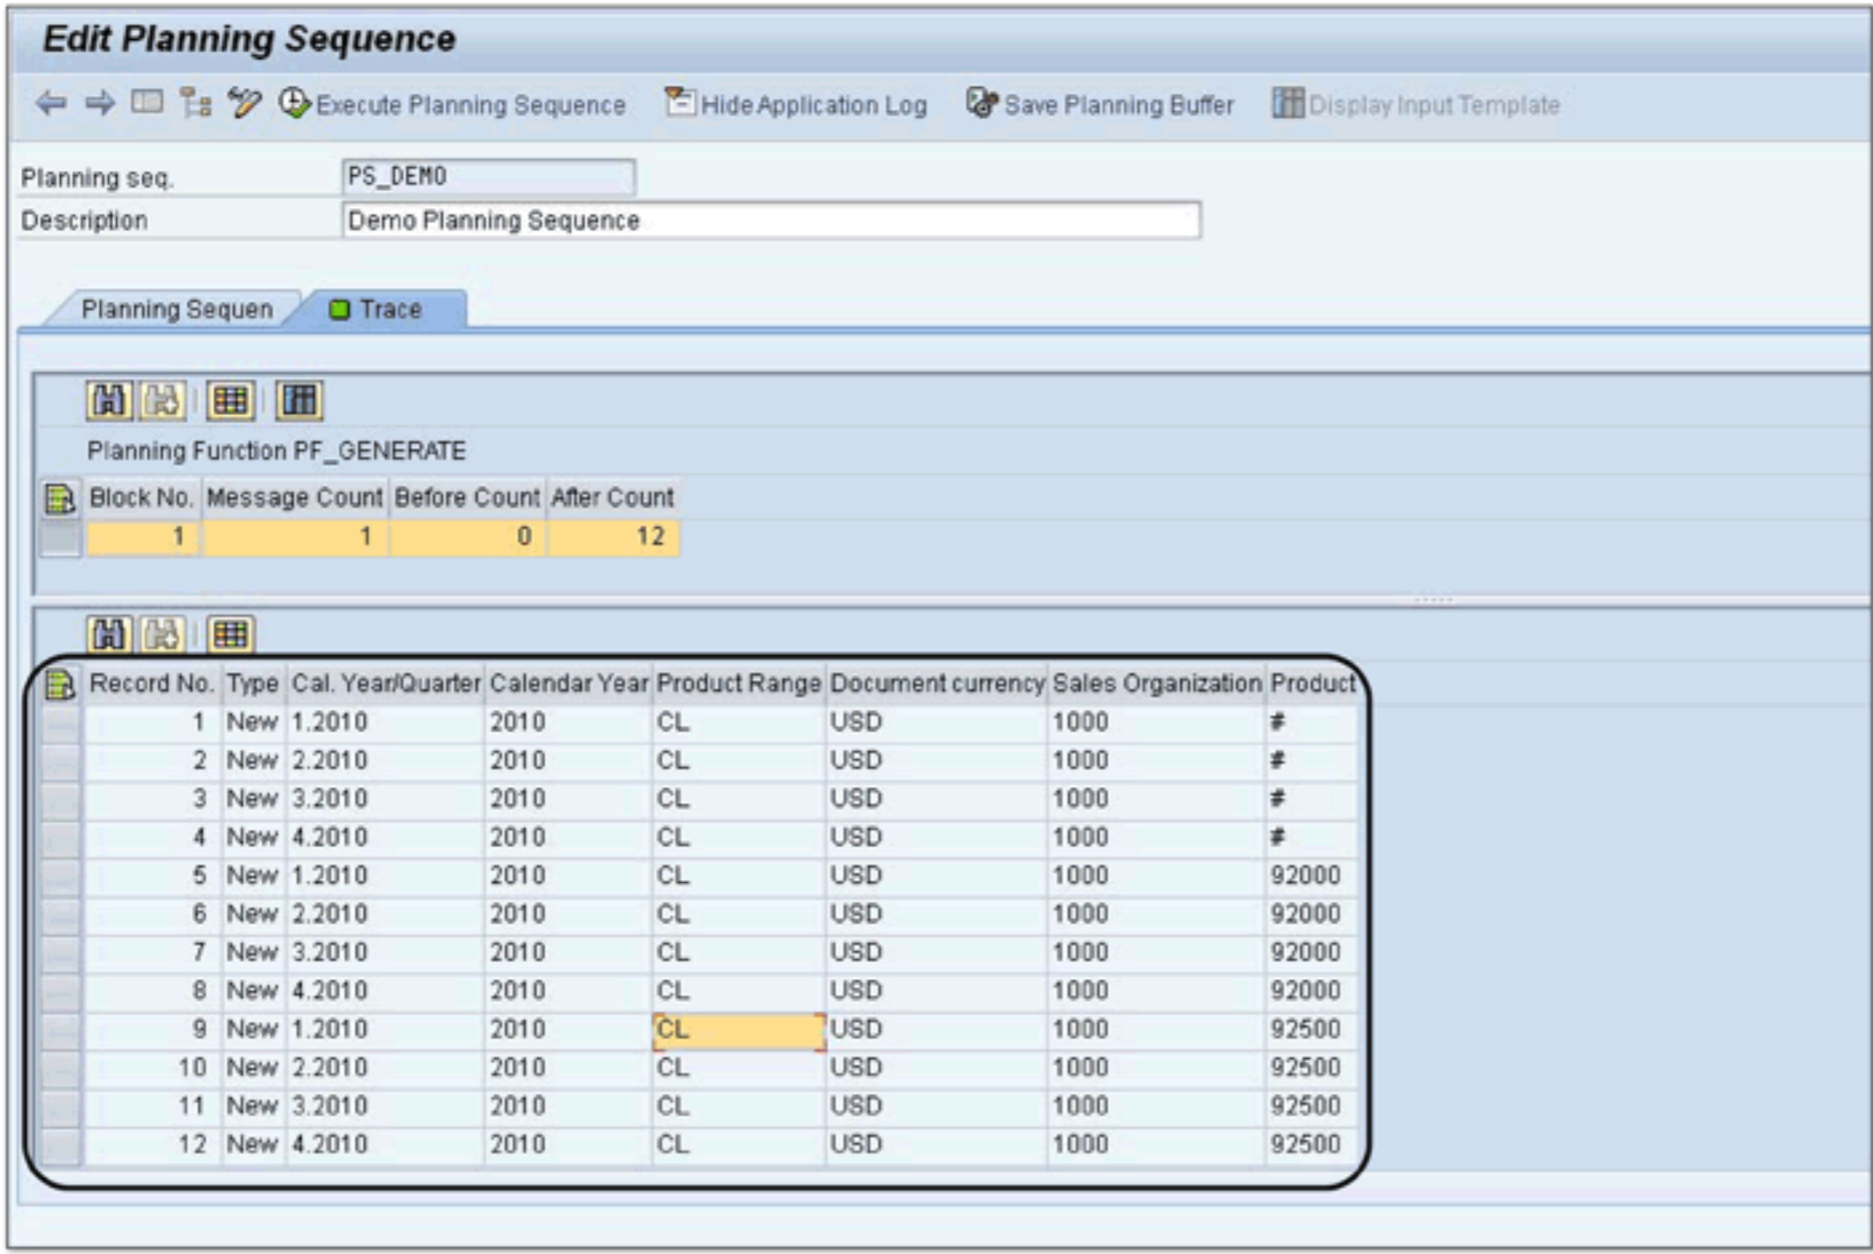

Figure 12.56 Trace Details
Select the block row and click on the DETAILS icon (❸) to see detailed trace information and data. The system displays the state of a data record before and after change. Also, the new records that are created can be identified using the TYPE of the record (Figure 12.56).